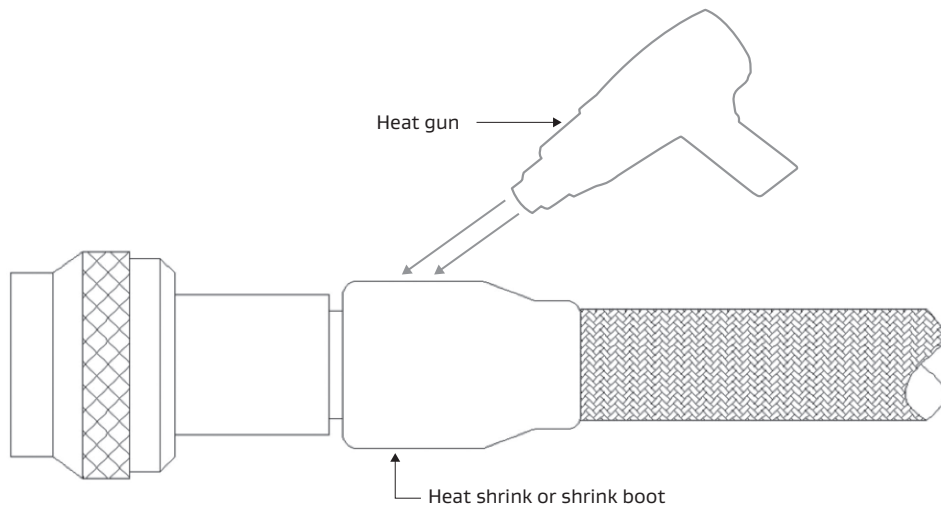

Figure 15: Applying heat to the heat shrink or shrink boot
12. Using a heat gun, apply heat to the heat shrink or shrink boot at the recommended temperature and duration from the manufacturer (Figures 15 and 16).